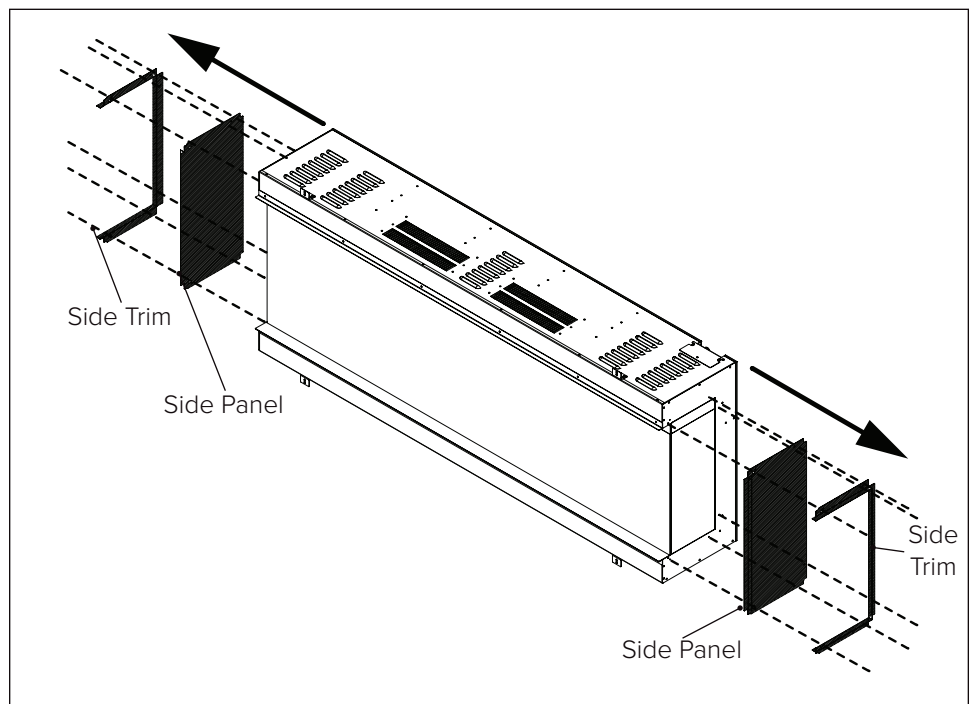

Fig. 3
3. Remove the side trims and side panels from both sides of the appliance by removing the 12 screws (**Fig. 3**). Set the side trims, side panels, and screws aside.